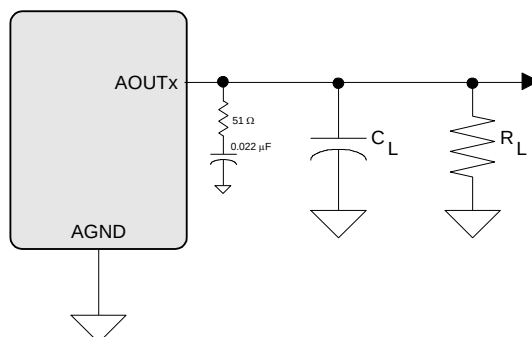

Figure 2. Headphone Output Test Load
8. See Figure 2. R_L and C_L reflect the recommended minimum resistance and maximum capacitance required for the internal op-amp's stability and signal integrity. In this circuit topology, C_L will effectively move the band-limiting pole of the amp in the output stage. Increasing this value beyond the recommended 150 pF can cause the internal op-amp to become unstable.
Test conditions (unless otherwise specified): Input test signal is a full-scale 997 Hz sine wave; Sample Frequency = 48 kHz; Measurement Bandwidth is 20 Hz to 20 kHz; Test load $R_L = 16 \Omega$, $C_L = 10 pF$ (see Figure 2); "Required Initialization Settings" on page 37 written on power up.
Test conditions (unless otherwise specified): Input test signal is a full-scale 997 Hz sine wave; measurement bandwidth is 20 Hz to 20 kHz; Sample Frequency = 48 kHz; Test load $R_L = 10\text{ k}\Omega$, $C_L = 10\text{ pF}$ (see Figure 2); "Required Initialization Settings" on page 37 written on power up.